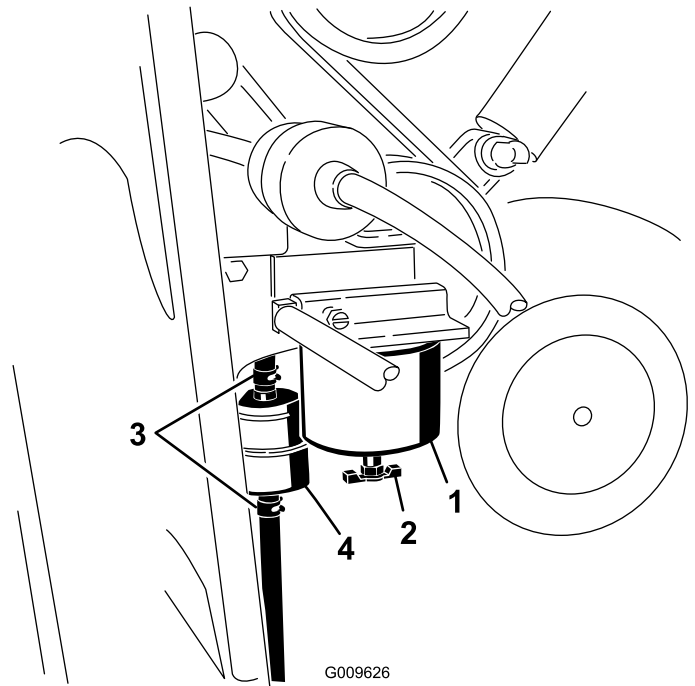

Figure 36
1. Locate the fuel filter on the right side of the engine (Figure 36) and place a clean container under it.
1. Locate the fuel filters on the right side of the engine (Figure 36) and place a clean container under it.
2. Clean the area where the filter canister mounts (Figure 36).
3. Remove the filter canister and clean the mounting surface (Figure 36).
5. Install the filter canister by hand until the gasket contacts the mounting surface, then rotate it an additional 1/2 turn (Figure 36).
6. Locate the in-line filter behind the fuel filter canister (Figure 36) and note the direction of flow arrow on the side of the in-line filter.
7. Open the clamps on each end of the in-line filter and slide the hoses off of it (Figure 36). Discard the filter.
8. Slide the hoses over the end of a new filter (Figure 36), ensuring that the arrow on the filter is